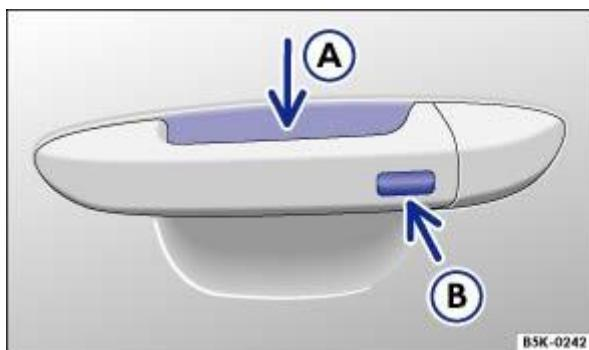

Fig. 53 In the door handle: sensors.
Touch the sensor ⇒ Fig. 53(A) on the inside of the driver or front passenger door handle.
Touch the sensor ⇒ Fig. 53(B) on the outside of the driver or front passenger door handle.
In addition, touch the sensor on the outside of the door handle ⇒ Fig. 53(B) once within five seconds. Do not reach into the door handle.
Keep a finger on the sensor ⇒ Fig. 53(B) of the driver or front passenger door handle for a few seconds until the windows and glass roof are closed.